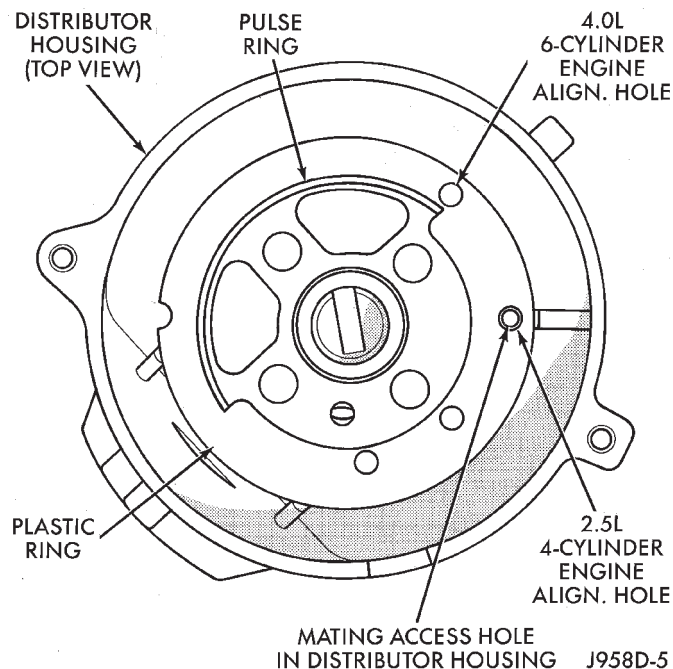

Fig. 40 Pin Alignment Holes—4.0L Engine
(6) Four different alignment holes are provided on the plastic ring (Fig. 40). **Note that 2.5L and 4.0L engines have different alignment holes (Fig. 40).**
(7) Rotate distributor shaft and install pin punch tool through proper alignment hole in plastic ring (Fig. 40) and into mating access hole in distributor housing. This will prevent distributor shaft and rotor from rotating.